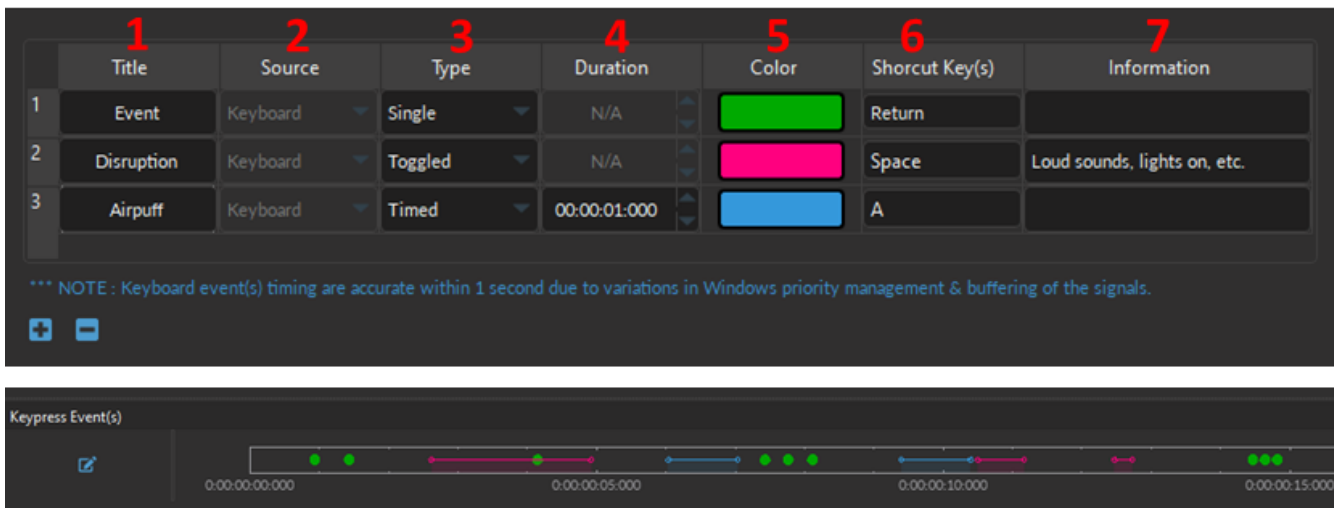

Figure 6.43: Channel(s) Configuration, Keypress Event(s)
The following are the configurable parameters of a **KeyPress Event**, per Fig. 6.43:
1. The **Title** (Fig. 6.43, 1) allows you to give a name for the Keypress event.
2. The **Source** (Fig. 6.43, 2) is by default *Keyboard*.
3. Three **Types** of Keypress Event(s) (Fig. 6.43, 3) can be specified with the drop-down list:
- The **Duration** Fig. 6.43, 4) is only used for the **Timed** Keypress type to specify the predetermined amount of time a Keypress Event will span. The duration is set in hh:mm:ss:zzz.
- Select the **Color** field Fig. 6.43, 5) to open the **Select Color** window. Basic colors are provided, in addition to custom colors can be created and stored.
- The **Shortcut Key(s)** Fig. 6.43, 6) can be any keyboard key, including space bar, enter, backspace, any letters, numbers and special characters (*, !, ?, etc.). To specify the key, click inside the *Shortcut Key(s)* cell, then press the keyboard key of choice. If a key was properly set, it will appear in the *Shortcut Key(s)* cell (as in Fig. 6.43, column 6).
- The **Information** column Fig. 6.43, 7) provides space to make notes or write a short description of the Keypress Event.